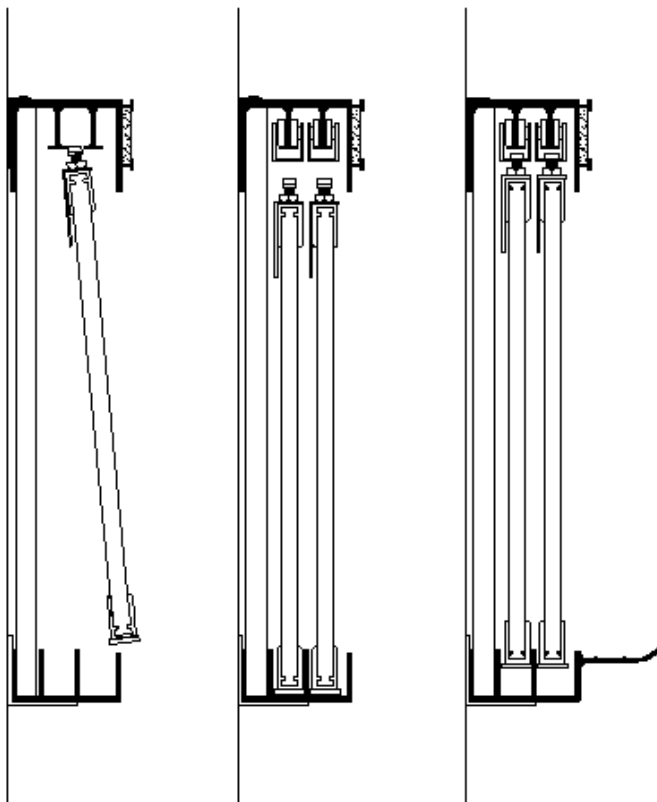

FIG 3 Insert panels then hook up to carriers.
Step 9: Install slider panels in frame (see illustrations following Fig 3 below). With the user surface facing outward lift the rear sliding panel, with installed hangers, up into the top track. The posts on the mounting brackets fit between the tracks, allowing the bottom of the panel to swing in over the bottom tracks. Lower the panel into the bottom rear track. Position the back panel to the right side of the unit.